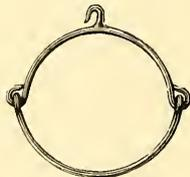

FIG. 346.
*Traveller, Jointed.*—The fishermen on the S.W. coast use a jointed mast traveller. The iron hoop is in two half moons, each end has an eye turned in (see Fig. 346); the two halves are connected by these eyes. The object in having a jointed traveller is to facilitate lowering. (See "Penzance Luggers.")